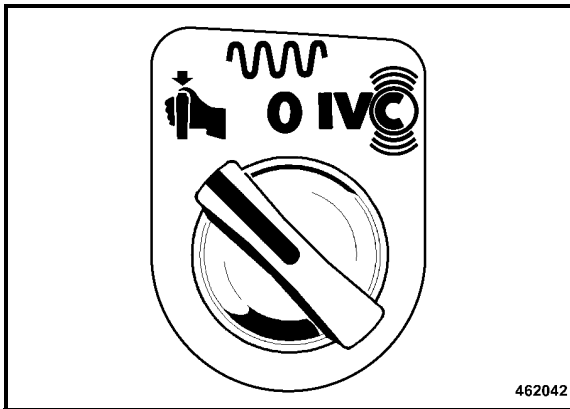

Fig. 72
- Turn the rotary vibration pre-selection switch (Fig. 72) anti-clockwise to the symbol "Manual".